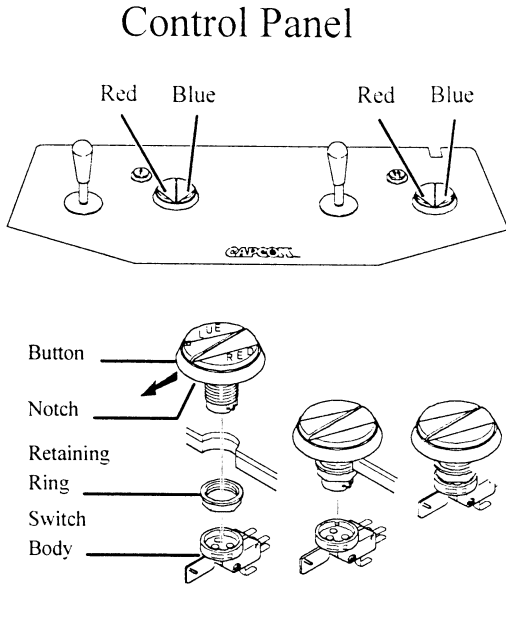

FIGURE 3 : Dual-Button Switch Installation (“Full” Kit)
13. Install the dual-button switch and retaining ring to the control panel. Make sure that the button colors are orientated as shown in Figure 3.
16. Install all switches on the buttons as shown in Figure 3. Orient the switches so that when a button is pressed, the red contact on the switch is depressed.